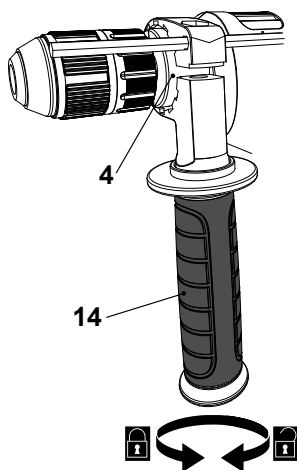

Fig. 5
- > Adjust the auxiliary handle (14) to the desired working position so that you can hold the product safely during operation. Make sure a notch of the auxiliary handle (14) is engaged with the tooth on the collar (4).
- > Turn the hand grip (14a) clockwise to tighten the clamp (Fig. 5).